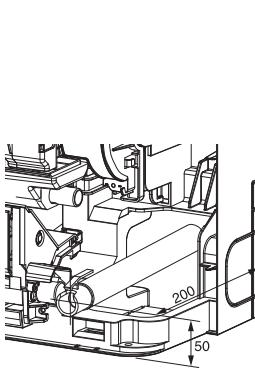

Fig. 4
- When routing the drain piping, make sure that the drain hose (1) is routed as shown. (Fig. 4)